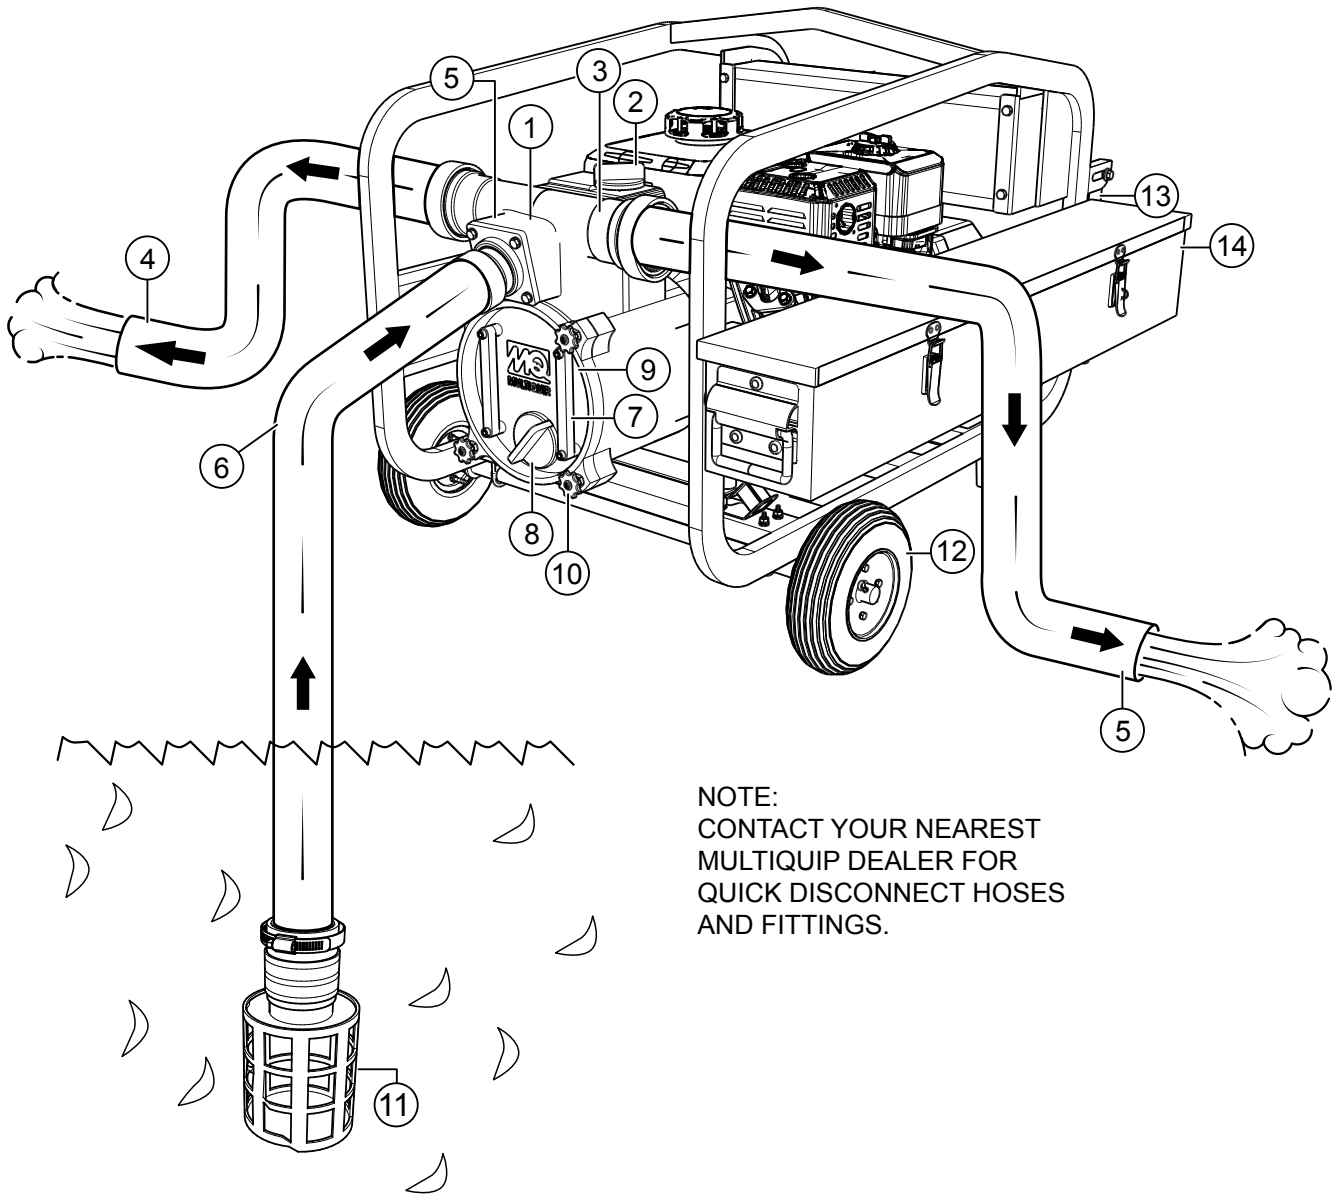

Figure 3. QP3Ti Pump Application
Figure 3 shows a typical application using the QP3Ti pump.
2. To prime pump, remove fill cap (See Figure 3) and fill pump casing with water. If the pump casing is not filled with water before starting, it will not begin pumping.
3. Attach suction and discharge hoses to the pump. Check that all hoses are **securely** attached to the pump. Make certain suction hose (See Figure 3) does not have any air leakage. Tighten hose clamps and couplings as required.
5. Check that the **discharge** hose (See Figure 3) is not restricted. Place hose so that it lays as straight as it is possible on the ground. Remove any twists or sharp bends from hose which may block the flow of water.
7. Make sure the **suction strainer** (See Figure 3) is clean and securely attached to the water end of the suction hose. The strainer is designed to protect the pump by preventing large objects from being pulled in to the pump.